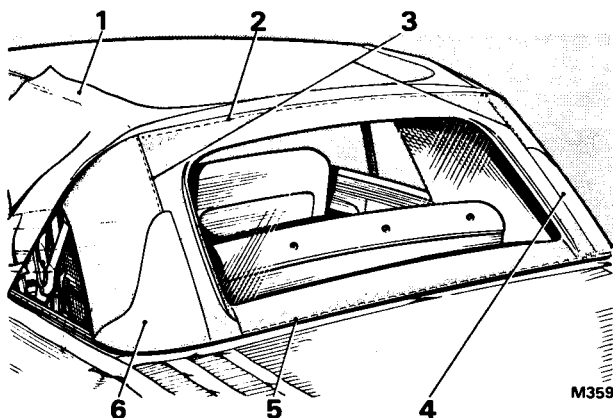

FIG. S47 BACKLIGHT AND TRIM (Convertible Cars)
Backlight and trim—To remove (see Fig. S47)
2. Fold the hood outer covering forward to expose the backlight trim (see Fig. S47).
3. Carefully remove the two weather sealing strips situated one on each side of the backlight trim (see Fig. S47); these sealing strips are secured with adhesive.
5. Remove the stitches (see Fig. S47, item 3), securing each side of the backlight outer trim to the 'wiggings'; detach the outer trim from the 'wiggings' noting that it is also secured with adhesive.
5. Use Dunlop L107 adhesive or its equivalent, to secure each side of the backlight outer trim to the 'wiggings' and to secure the weather sealing strips on each side of the trim; ensure that each strip overlaps the line of hand stitches (see Fig. S47).